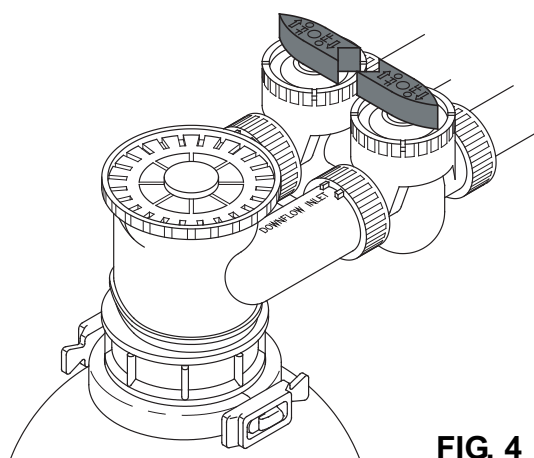

FIG. 4
- Place bypass valve(s) into BYPASS position. On a single valve, turn both handles perpendicular to water flow (See Fig. 4). On a 3 valve system, close the inlet and outlet valves, and open the bypass valve (See Fig. 3).